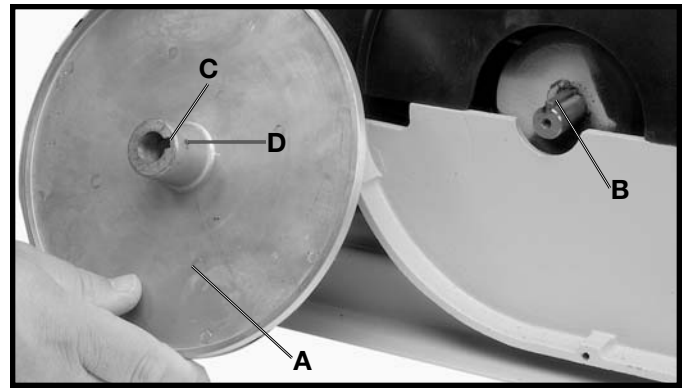
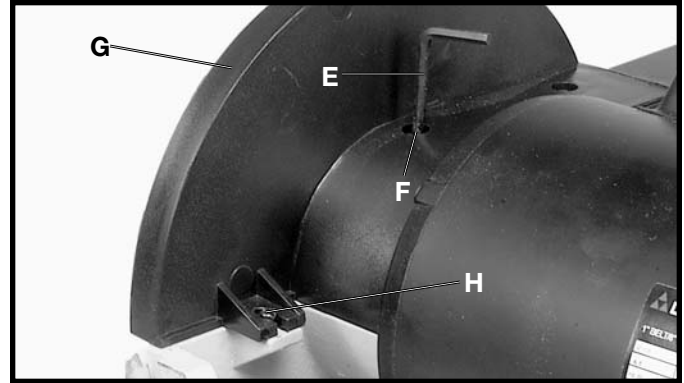

Fig. 9
Fig. 10
2. Assemble the sanding disc plate (A) Fig. 9, to the motor shaft with the key (B) in the motor shaft, engaged with the keyway (C) in the hub of the sanding disc.
3. Rotate the sanding disc until the set screw (D) Fig. 9, is in the up position and tighten set screw (D) Fig. 9, using wrench (E) Fig. 10, through the hole (F) in top of guard assembly.
4. Adjust the disc guard so that the lip (G) Fig. 10, covers the outer edge of the sanding disc, but not past the face of the disc, and tighten the two M4X10mm cheese head screws, one of which is shown at (H), that attach the disc guard to the base.